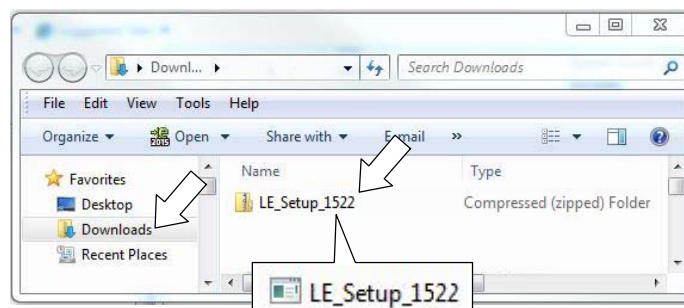

Fig. 20
6. Open the “Downloads” folder and locate the “LE_Setup_xxxx” zip file. Open the zip file and double click on the “LE_Setup_xxx” file to install the application software on your computer (Figure 20). Follow instructions on screen to install.